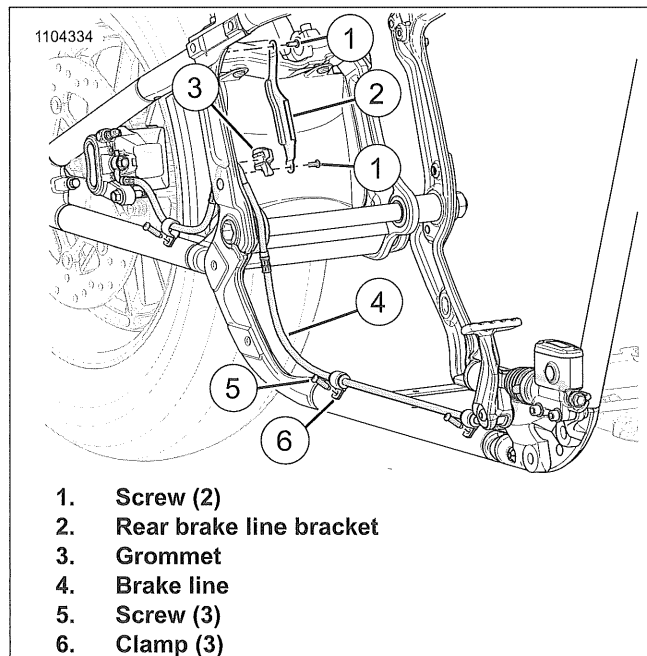

Figure 3-53. Rear Brake Line: (Non ABS)
3. See Figure 3-53. Remove rear brake line retaining bracket.
- a. Remove screws (1).
- b. Remove rear brake line bracket (2).
- a. Remove screws (5).
- b. Remove brake line (4).
- c. Remove clamps (6) from brake line.
- d. Remove grommet (3) from brake line.
1. See Figure 3-53. Install grommet (3) onto brake line (4).
- a. Install rear brake line bracket (2).
- b. Install screws (1). Tighten.